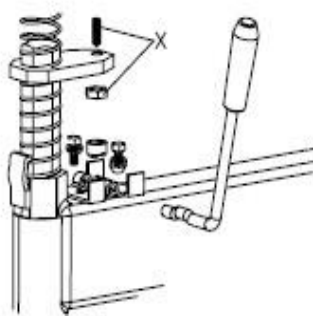

Fig 12
Note: If Hexagonal Vertical Arm not be locked or not meet the requirement that 2-3mm from the bottom of Mounting/demounting head to rim, please adjust Hexagonal Locking Plate, refer to Fig 12 and adjust the (X).